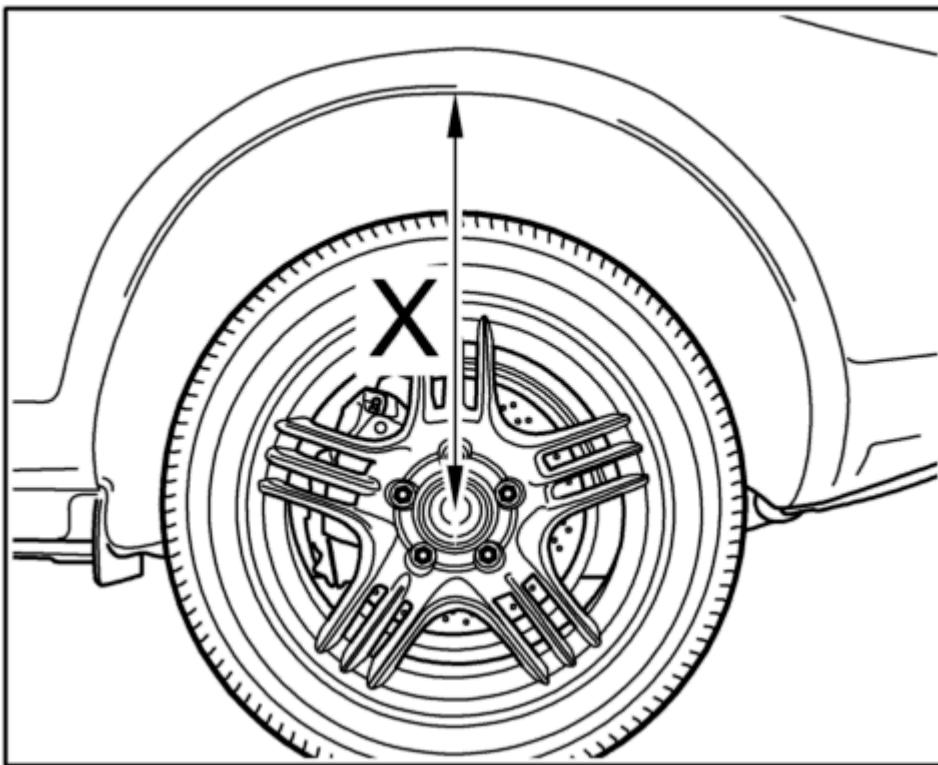

Fig. 72: Axle must be tightened in vehicle position (Dimension -X-)
- *The entire threaded parts of the axle must be tightened in vehicle position! Vehicle position means: vehicle standing on the wheels, or the wheel suspension is being raised with a universal vehicle lift! Dimension -X- , from lower edge of wing to middle of axle $506 \text{ mm} \pm 10 \text{ mm}$ corresponds to vehicle position! See Fig. 72.*